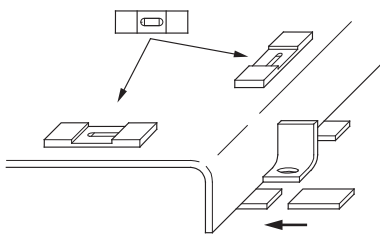

Fig. 8: Levelling and aligning the baseplate
- Apply the baseplate and level this in both directions with additional shims (see Fig. 8).
- Align the complete unit when installing on the base using a spirit level (at the shaft/pressure port) (see Fig. 8). The baseplate should be horizontal with a tolerance of 0.5 mm per meter.